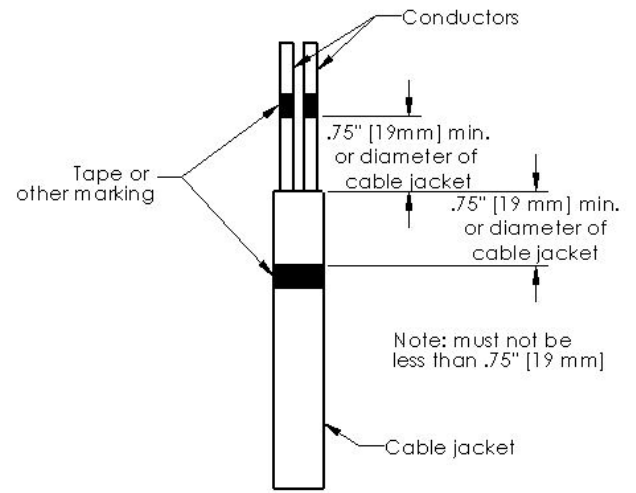

Figure 3
- Mark the conductors and the cable jacket at a length equal to the diameter of the cable jacket (but not less than 3/4 inch) from the end of the cable as shown in Figure 3. These markings will be used to ensure that the proper length of TSC Sealing Compound is applied. Tape or any other suitable means may be used to provide the marking.